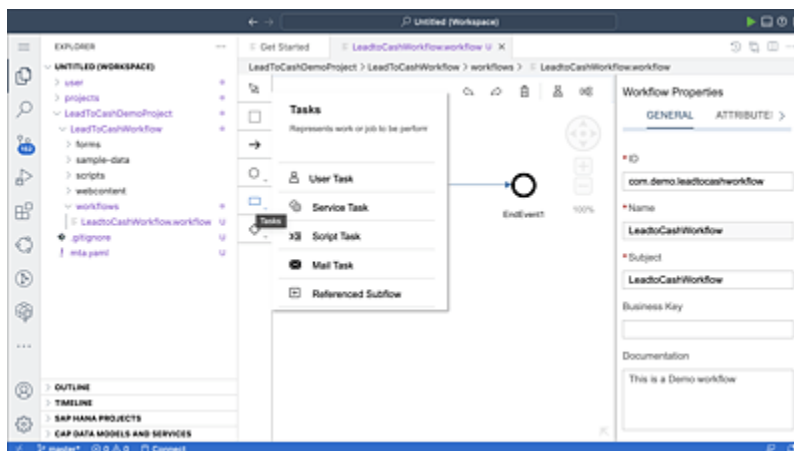

Figure 18.8 Create a Script Task
1. In your Workflow Designer that you created in the previous step, click the **Tasks** icon in the side menu, and select **Script Task**, as shown in Figure 18.8.